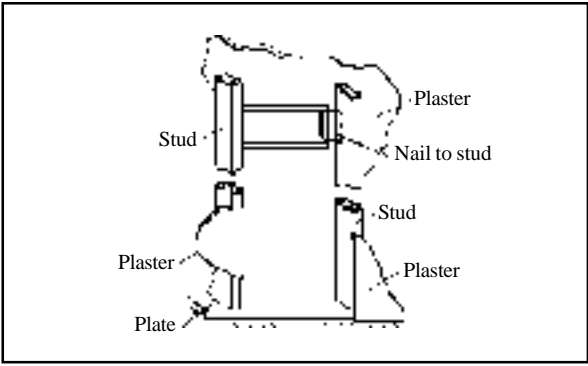

FIG. 7 - PLACING FRAME FOR REAR REGISTER
**STEP 2.** Install frame for rear register in hole and nail frame to stud as shown in Figure 7.